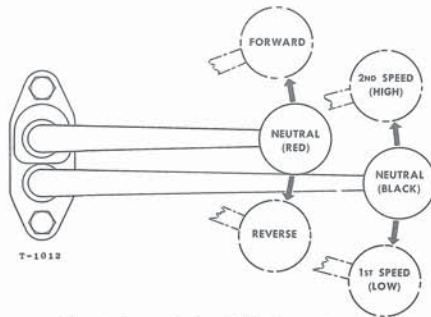

Fig. 3. Transmission Shift Lever Positions
**Starting.** Place transmission shift levers in neutral position (Figure 3). Depress brake pedal and engage ratchet. Pull choke button out half-way (full-out in cold weather). Depress accelerator pedal slightly. Turn key to "on" position, depress clutch pedal, and press starting switch button to start engine. Before operating the lift equipment or driving the vehicle, allow engine to operate at a fast-idle, pushing the choke button in gradually as the engine warms up.
**Driving.** The vehicle is equipped with a four-speed transmission (two speeds, forward; two speeds, reverse). Figure 3 illustrates the shift lever positions for these various speeds. The short shift lever (red knob) determines direction of travel (forward and reverse). The long shift lever (black knob) determines speed ratio (high and low). **CAUTION:** Always start vehicle in low (first) speed when carrying a load or ascending a grade.